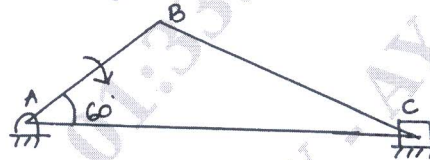

Fig.Q.3(b)
- b. In a slider crank mechanism the crank $OB = 30\text{mm}$ and the connecting rod $BC = 120\text{mm}$. The crank rotates at uniform speed of 300rpm clockwise. For the crank position shown in Fig.Q.3(b) find: